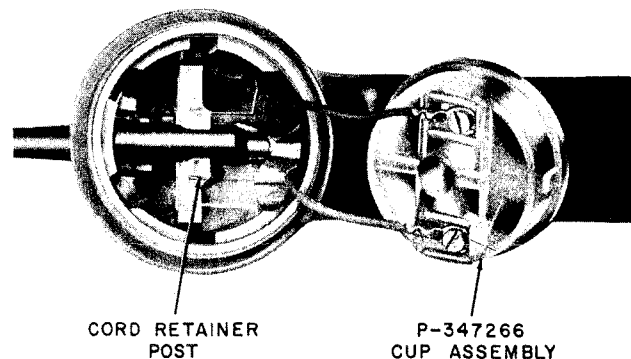
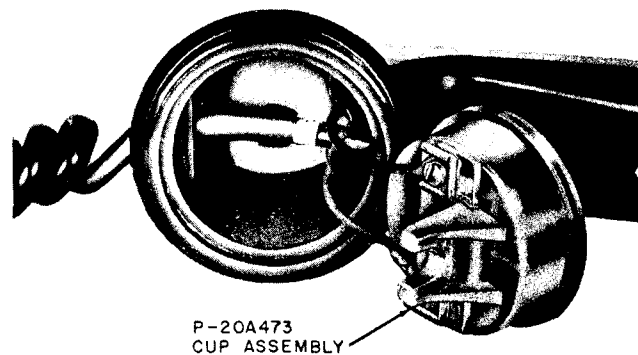

Fig. 2—Early G Series Handset
Fig. 3—Current G Series Handset
2.03 Early G-series handsets were equipped with cord retainer parts in the transmitter cavity (Fig. 2). Current G-series handsets are equipped with transmitter cups having the cord retainer molded on the cup (Fig. 3). The two types of cord retainer arrangements are not interchangeable.